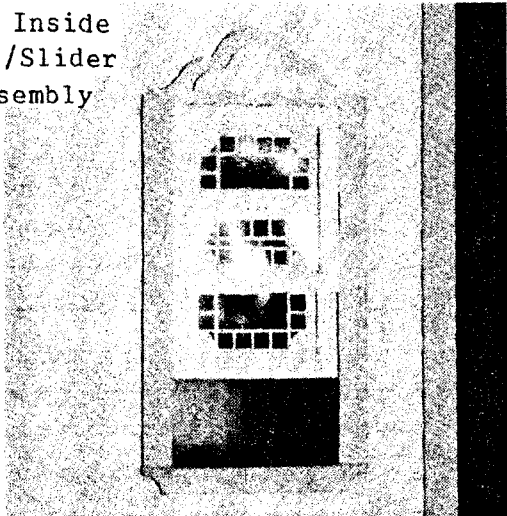

Figure 9
6. Dry fit the double hung window assemblies into the walls to be sure of proper operation. To do this, tape the outside window surround centered on the outside of the window opening in the wall. From the inside, insert the slider assembly into the wall opening with the inside frame to the inside. Tape the inside window surround centered on the inside of the window opening in the wall. Raise the slider up and insert the sill diagonally and slide down. This process will tell you if you need to sand excess paint or burrs from the slider or surrounds for proper operation. Figure 9.